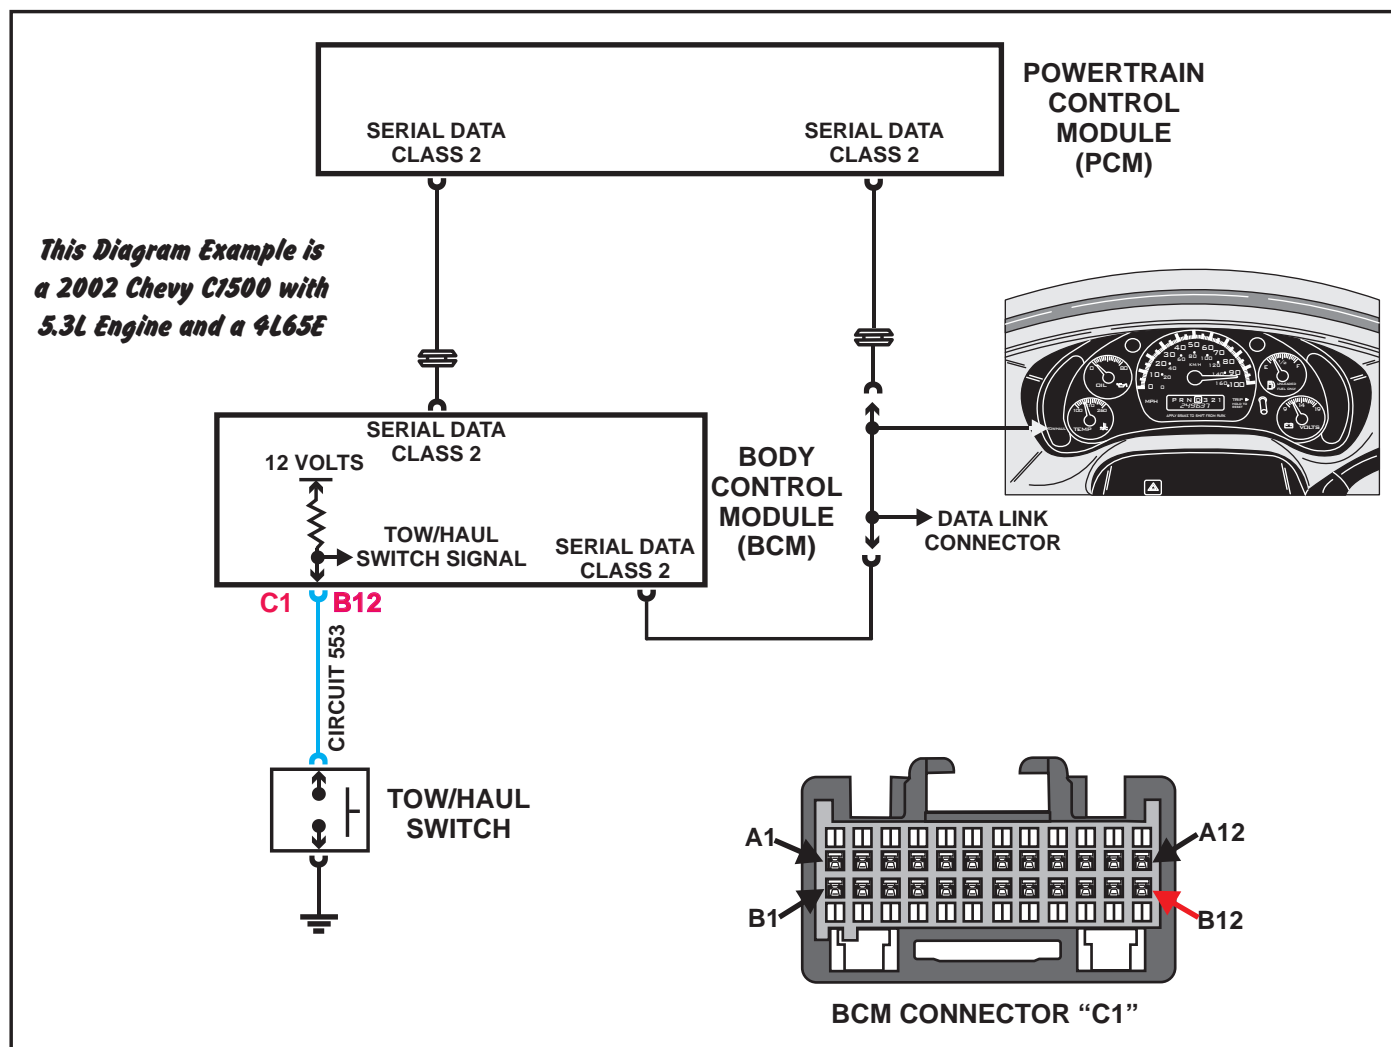

Figure 148
- Some scan tools will not show a state of change on the Tow/Haul parameter when the switch is cycled, this is a scan tool issue in most cases. In such instances use a DVOM to check operation on circuit 553, (Refer to Figure 148).
- In most cases, the Lt. Blue wire is circuit 553 and is located in BCM connector C1 at the B12 location, (Refer to Figure 148).